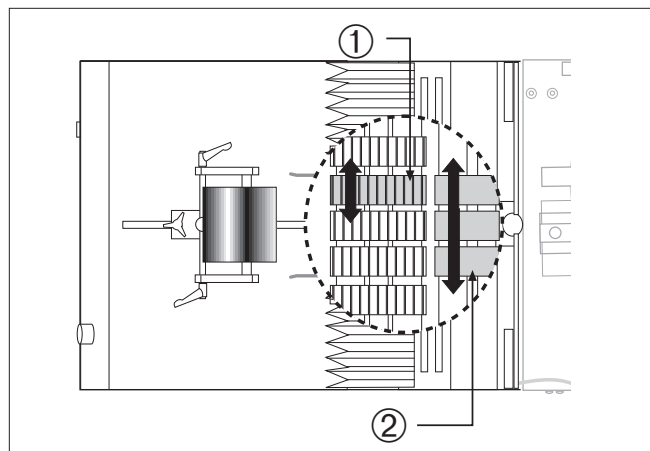

Figure 26. Ensure Proper Feed Belt Tracking
Referring to Figure 26, ① and ②, check for visual signs of: